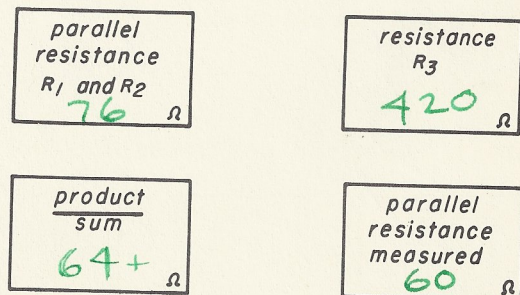

Fig. 8-18
Note When three resistors are connected in parallel, the total resistance may be calculated by using the product-over-the-sum method. Just do the work in steps. For example, to find the total resistance of R_1 , R_2 , and R_3 in parallel, we may first calculate the resistance of two of them in parallel and use this calculated value in parallel with the third resistor. You have already calculated the resistance of R_1 and R_2 in parallel, so record this value in the first box of Fig. 8-18.
Step 2. Record, in box 2 of Fig. 8-18, the measured value of resistance of R_3 as found in Experiment 8-3.
second box (R_3), using the product-over-the-sum method. Record your answer in the third box of Fig. 8-18. With your ohmmeter, measure the resistance of R_1 in parallel with R_2 and R_3 , by placing one prod on one end of R_1 and the other prod on the other end of R_1 . This measurement might just as easily be made across R_2 or R_3 ; the resistance is the same. Record this value in the fourth box of Fig. 8-18. The resistance value in the third box should equal that of the fourth box. If there is a great difference between these values, check your calculation.